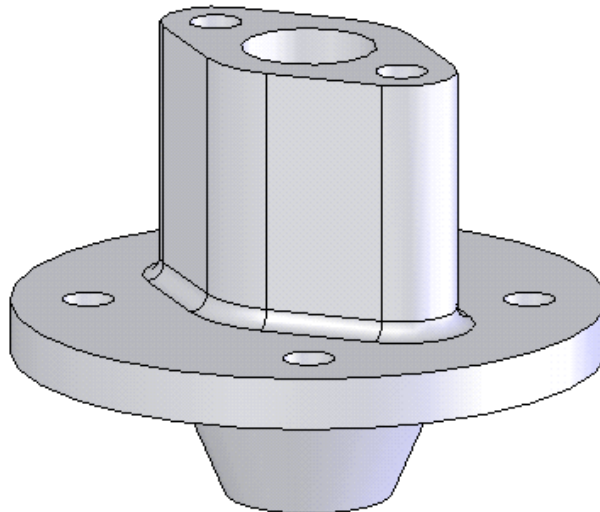
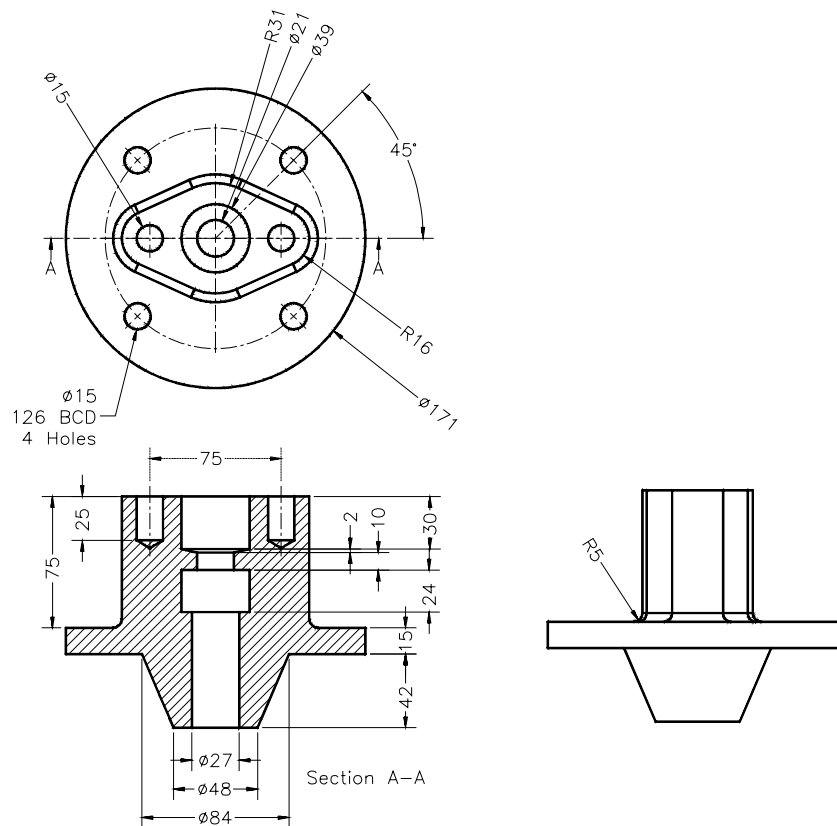

Figure 8-52 The dimetric view of the model for Tutorial 1
Figure 8-53 Views and dimensions of the model for Tutorial 1
In this tutorial you will create the model shown in Figure 8-52. After creating the model you will edit the model with **Move/Size Features** option selected. The views and dimensions of the model are shown in Figure 8-53. **(Expected time: 45 min)**
1. Create the other features of the model by referring to Figure 8-53.